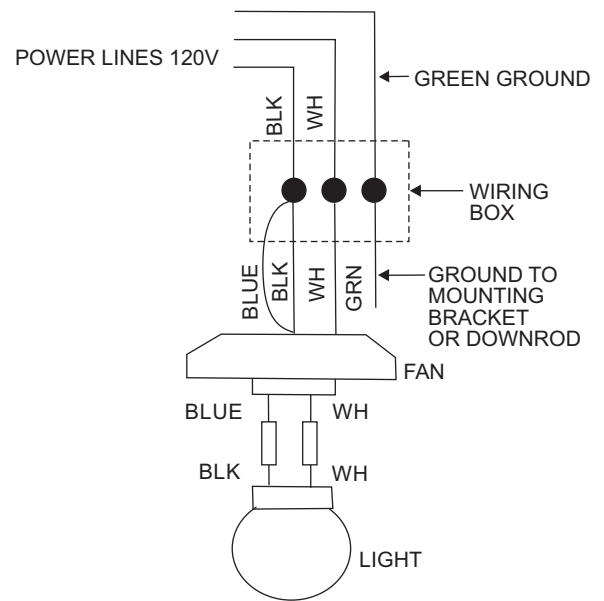

Figure 8
Step 1. Connect the fan supply (black) wire and light supply (blue) wire to the black household supply wire as shown in Figure 8.